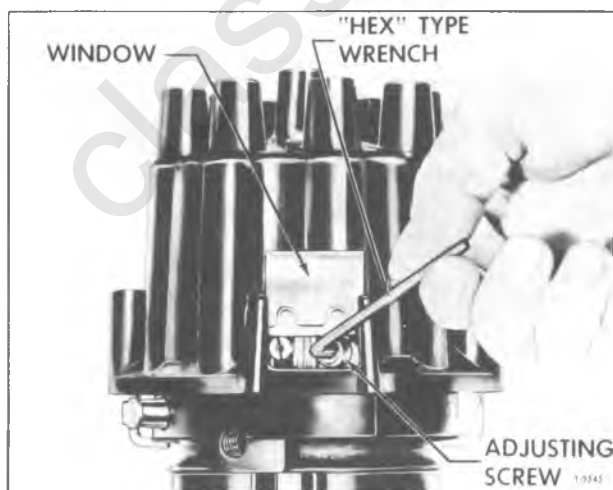

Figure 11—Setting Dwell Angle (V8 Engine) (Typical)
1. With engine running at idle and operating temperature normalized, raise window in distributor cap and insert a "hex" type wrench into head of adjusting screw as shown in figure 11.
b. Turn adjusting screw (fig. 11) to set dwell angle to 30 degrees.
c. Turn adjusting screw (fig. 11) clockwise until lamp lights, then give wrench $\frac{1}{2}$ turn in opposite direction (counterclockwise) to obtain proper dwell angle.